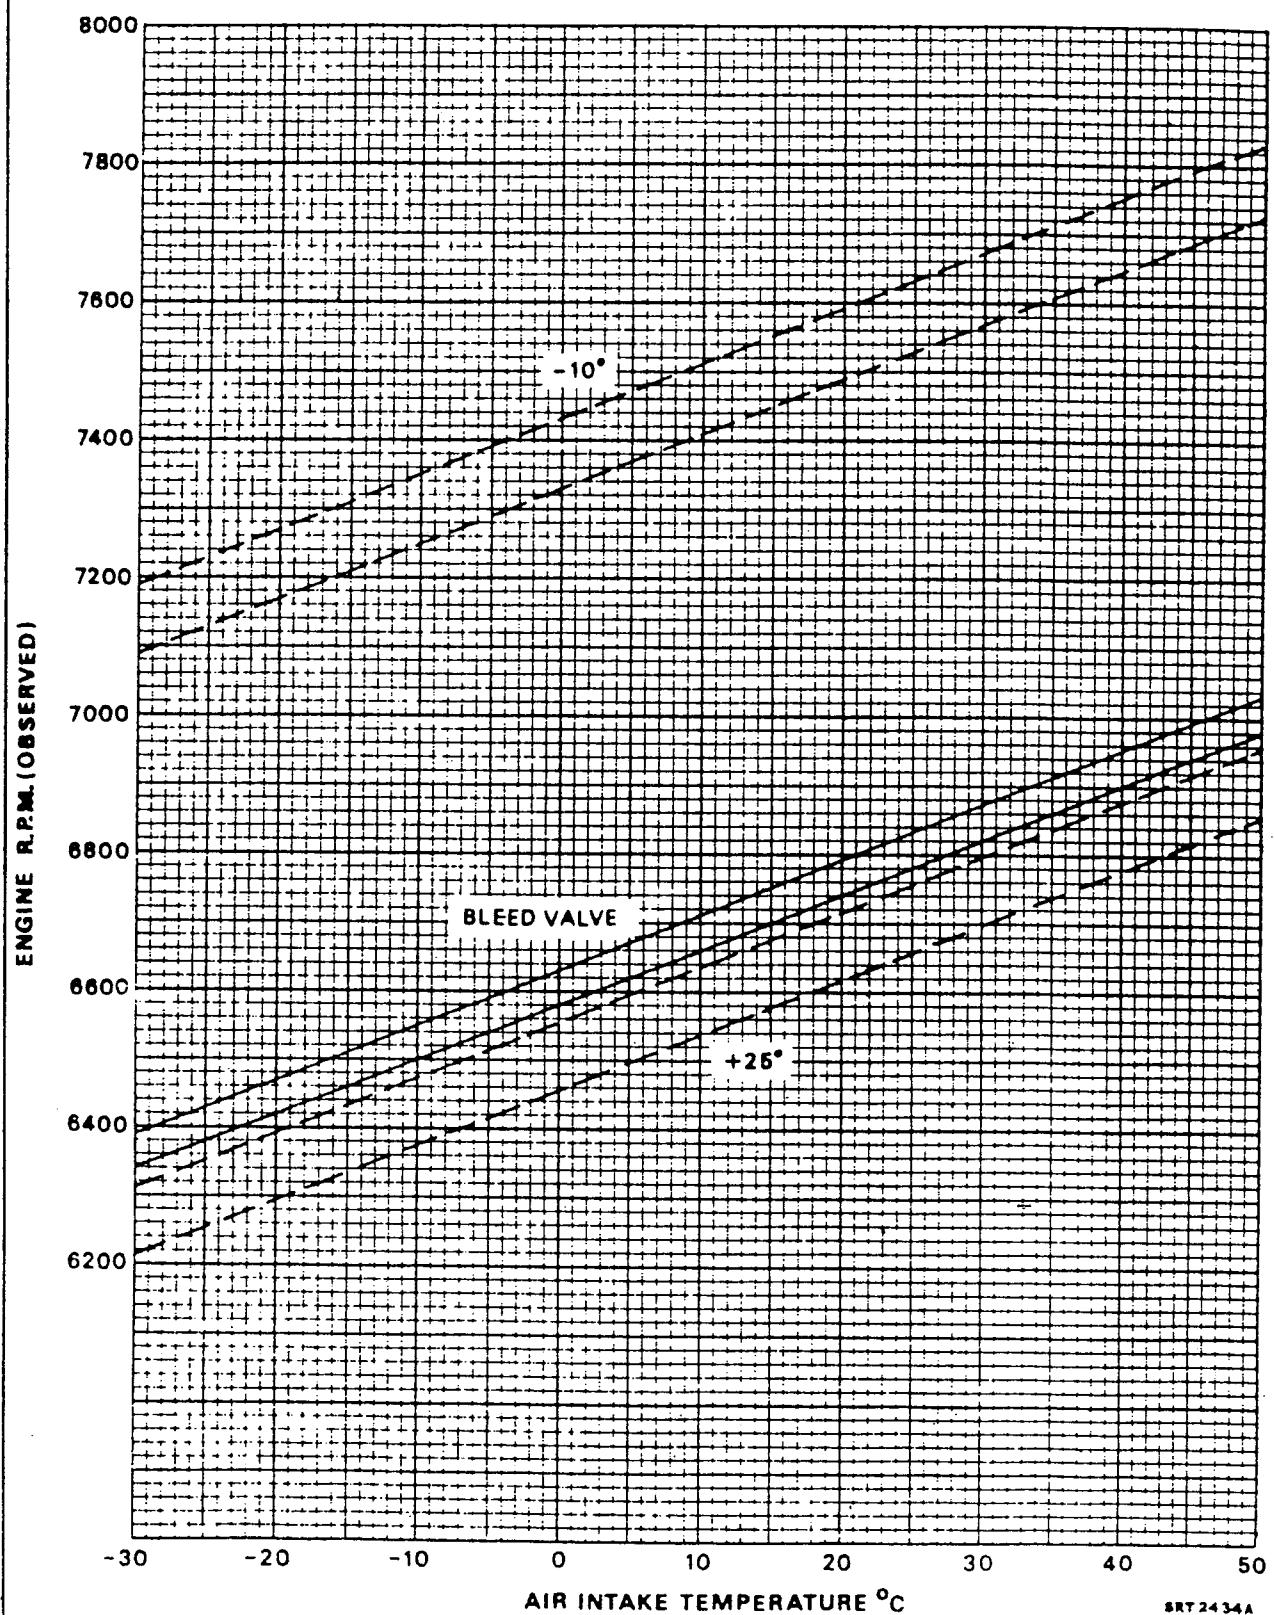

Fig.1 I.G.V. ram and air bleed valve setting curve
- (vi) Ensure bleed valve operating rev/min are within the limits of Fig 1, and that the engine is free from surge, bleed valve 'THUMP' or burbling during a rapid deceleration from governed speed. Record RPM at which bleed valve opens on rapid deceleration.